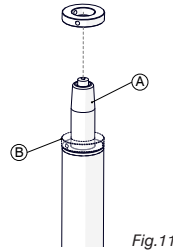

Fig.11
- Introduce the metallic ring of the accessories bag through the piston axle **A** (Fig.11) until the position **B** (Fig.11).